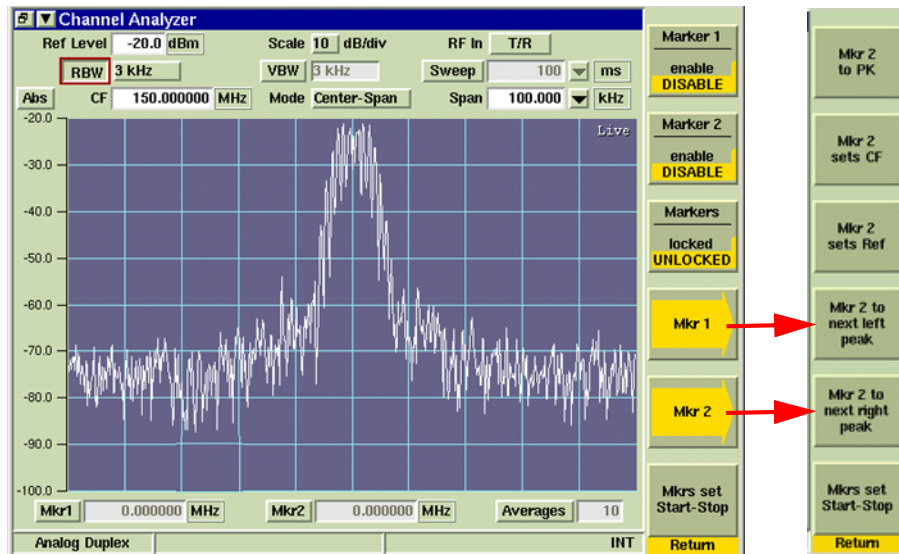

Fig. 7-12 Channel Analyzer Markers Soft Key Menu
- [\[Mkr 1 / Mkr 2\] Soft Key](#)s access additional soft keys (refer to Fig. 7-12) that also adjust marker position on the display field.